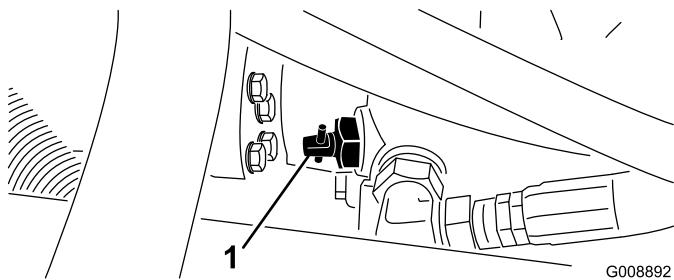

Figure 39
1. Locate the bypass valve on the pump (Figure 39) and rotate it 90°.